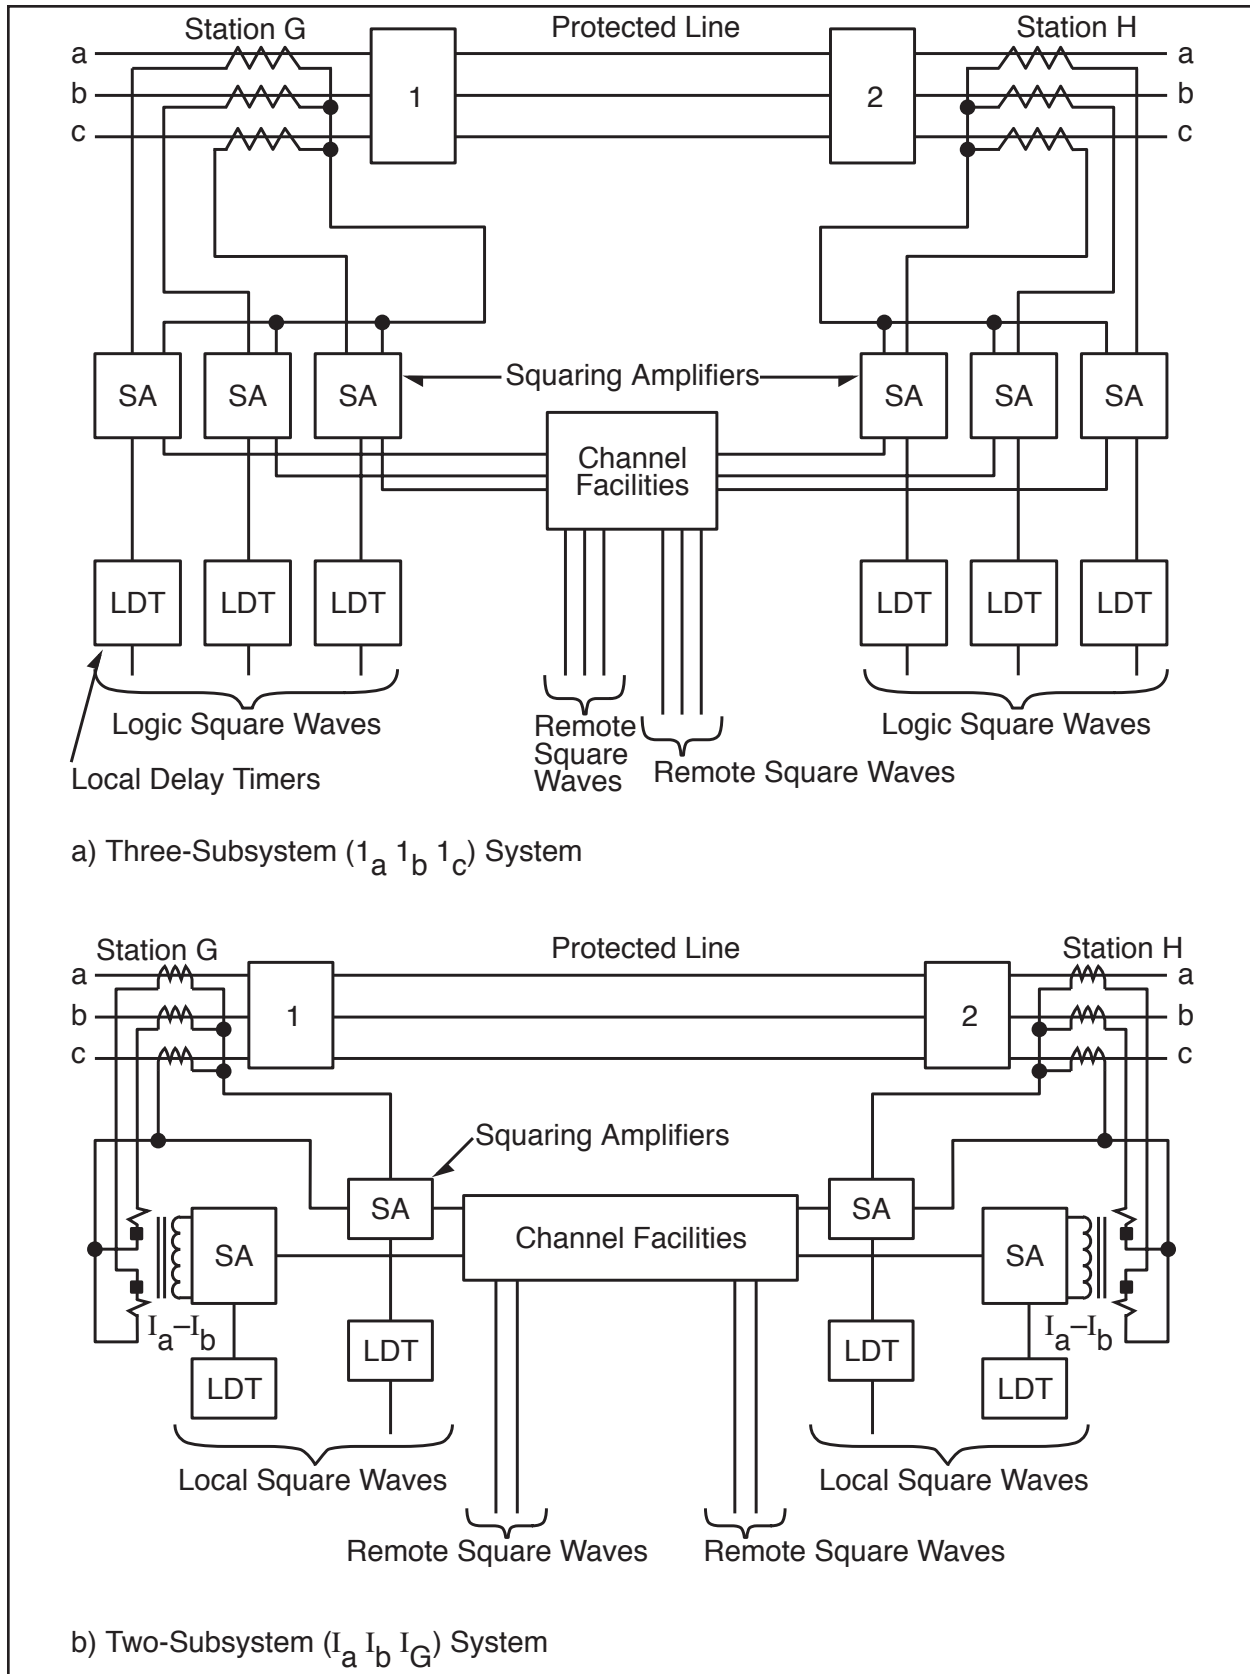

Figure 3-6. Basic Segregated Phase Comparison Systems.
The two-subsystem package is suitable for all applications except single-pole tripping, where the three-subsystem package must be applied. The basic operation of the scheme is illustrated in Figure 3-6. Each current is fed through a noninductive resistor, supplying a voltage output to the squaring amplifier (SA) that is exactly proportional to the primary currents. The output of these amplifiers is used to key the individual channels and, through the local delay timers (LDT), to pro-